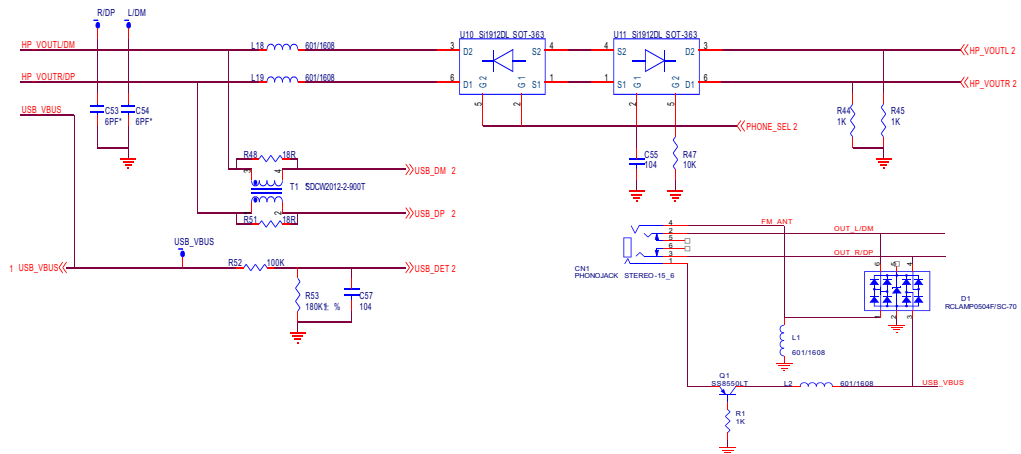

Figure 3.2.4.1 Earphone output/USB jack circuit
1. Earphone output jake of X27 is also USB jack. Principle chart of circuit is shown in figure 3.2.4.1: